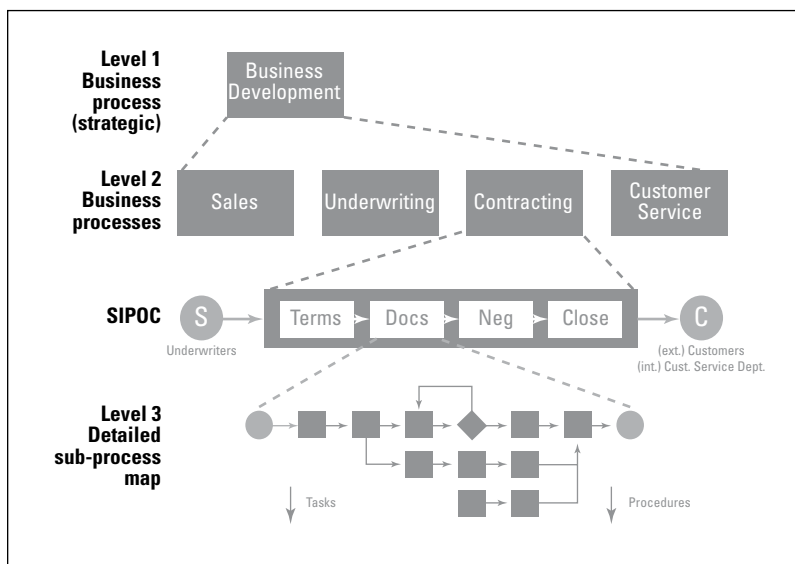
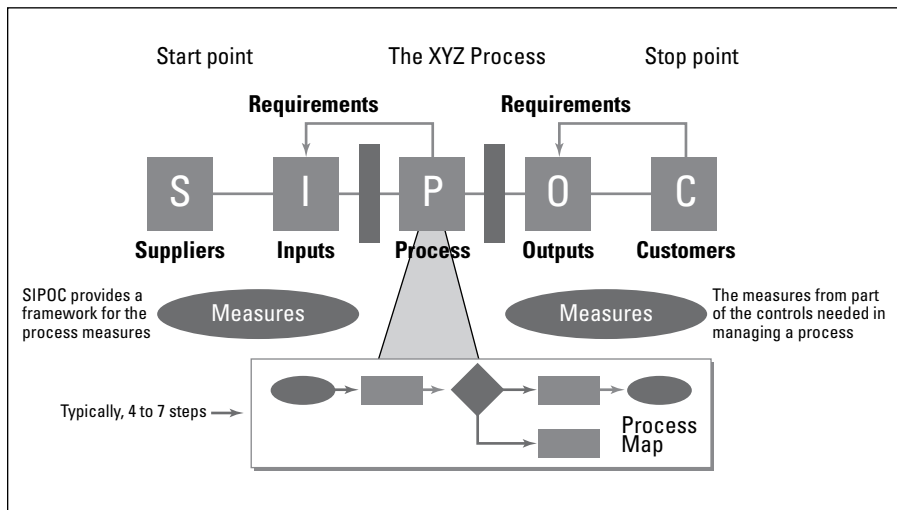

Figure 3-3:
Figure 3-5:
Our example in Figure 3-3 has ‘business development’ at Level 1 and shows the various sub-processes down to Level 3.
A high-level process map provides a framework to help you understand your process and its customers and suppliers better, and to think about what needs to be measured in the process to help you understand performance and opportunities for improvement (covered in Chapters 6 and 7). Figure 3-5 shows the *SIPOC model*. SIPOC stands for:
- ✓ **Process:** In the SIPOC diagram, the P presents a picture of the process steps at a relatively high level, usually Levels 2 or 3, as referenced in Figure 3-3.
In Figure 3-5, the start and stop points are represented with the oval shapes, the process steps with the rectangular boxes, and points in the process involving questions with the diamond shapes. Diamonds are decision points, for example showing the need to do something different if you are dealing with product A or product B, or where different authority levels might come into operation in underwriting a loan, perhaps based on the loan value. Diamonds tend to be not so relevant in the SIPOC diagram, though there will be times when you need to use them. In Figure 3-3, we have included one purely for reference.